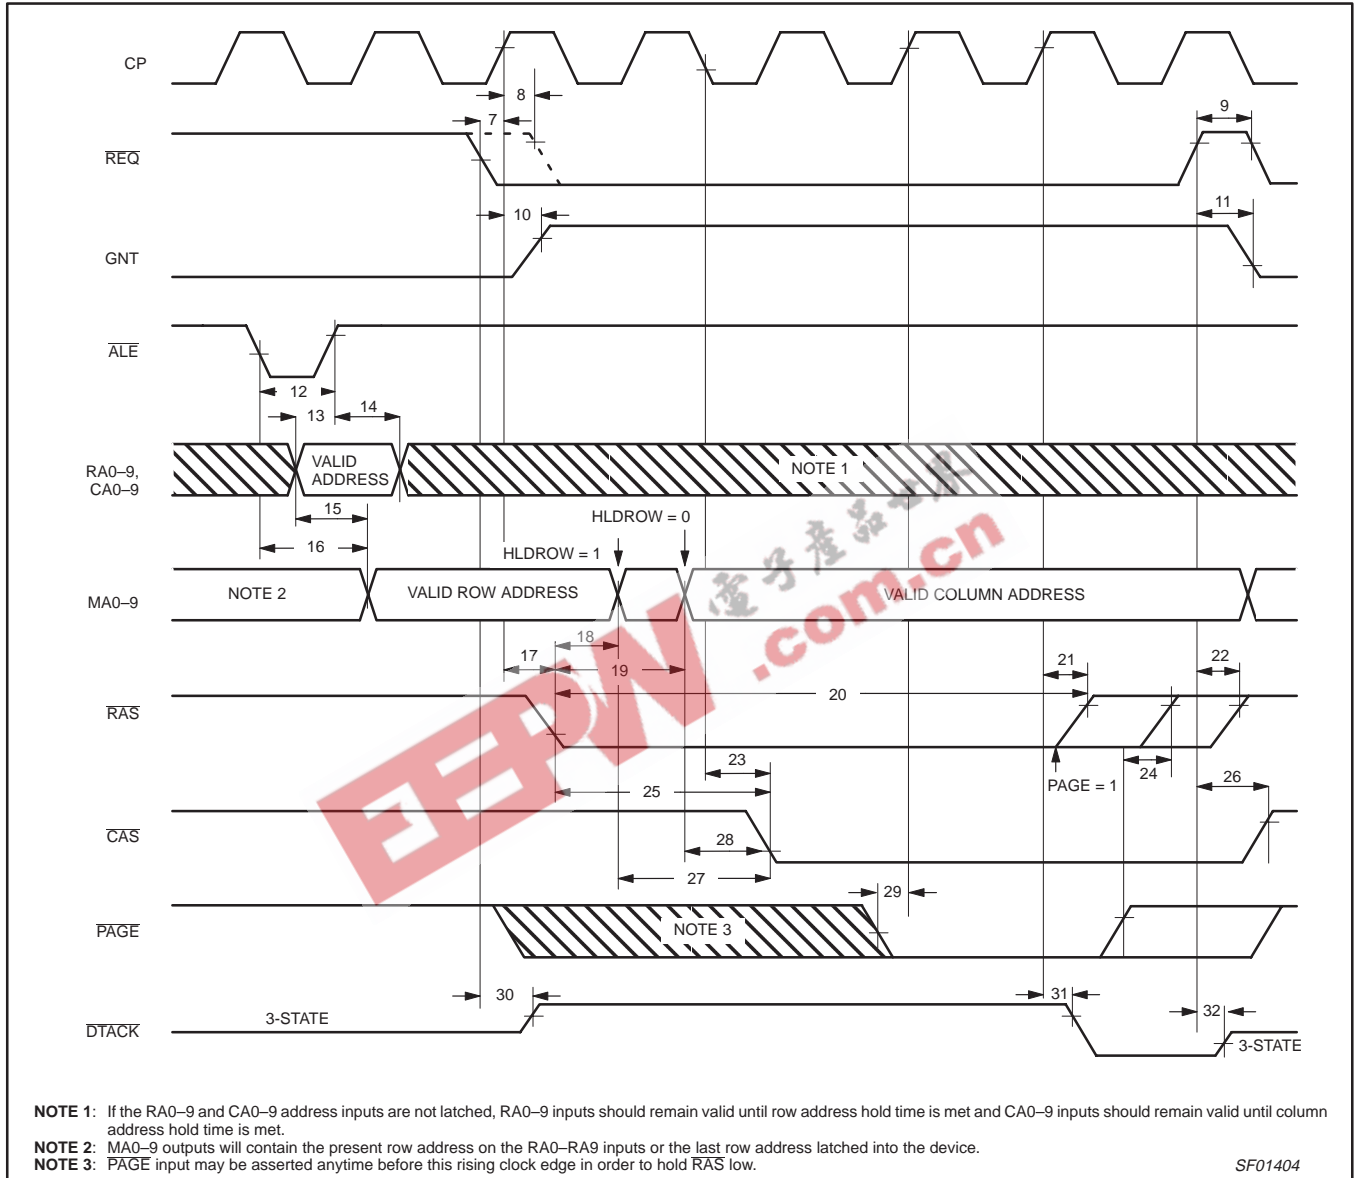

Figure 2. Memory access cycle timing
3. When ALE is Low, the address input latches are in the transparent mode and therefore any changes in the address inputs will be propagated to the MA0–9 outputs. Figure 2 illustrates RA0–9 inputs propagating to the MA0–9 outputs, but later in the cycle, if ALE is still Low when the CA0–9 inputs are multiplexed to the MA0–9 outputs the CA0–9 inputs will be in the transparent mode.